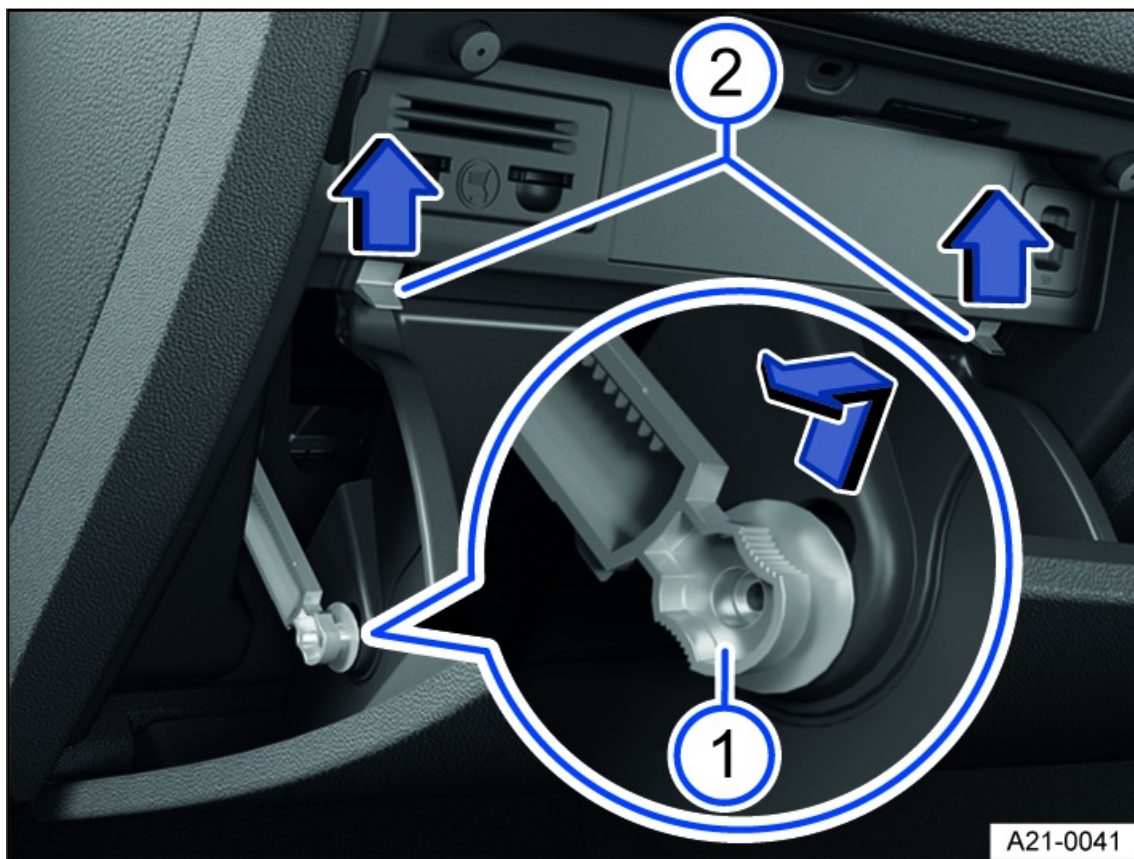

Fig. 194 On the passenger's side: Fuse box cover in the instrument panel (right-hand drive vehicles).
2. Push the brake element upward into the opening of the bracket and pull it out sideways in the direction of the arrow *fig. 194*.
3. Press the stop pin upwards in the direction of the arrow, while at the same time opening the glove compartment further *fig. 194*.
2. Insert the brake element into the opening of the bracket and push it in the opposite direction to the arrow until it engages *fig. 194*.
3. Carefully push the glove compartment forward over the resistance of the stop pins *fig. 194*.